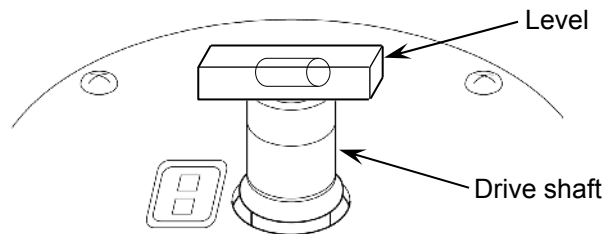

Fig. 5-3 Level placement
- (2) Turn on the power to ultracentrifuge, open the chamber door, and then turn off the power. If this ultracentrifuge is still unplugged, refer to Section 2-5 "Emergency recovery from power failure", remove the front cover, and open the chamber door.
- (3) Place the level furnished with this ultracentrifuge on the drive shaft in the rotor chamber and turn the four leveling screws to adjust the levelness of this ultracentrifuge (Fig. 5-3).
- (4) After adjusting the levelness, make sure that the four leveling screws are fastened securely to the surface where the centrifuge is positioned.